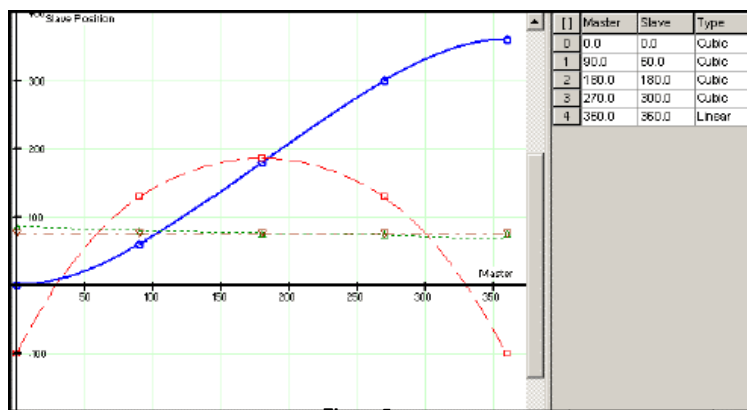

Figure 5
**Note:** ControlLogix has a cam editor shown in Figure 5. The CAM points are in relative coordinates thus making it difficult to recover when in the middle of a CAM, if the machine is stopped in an irregular manner such as an E-Stop condition.